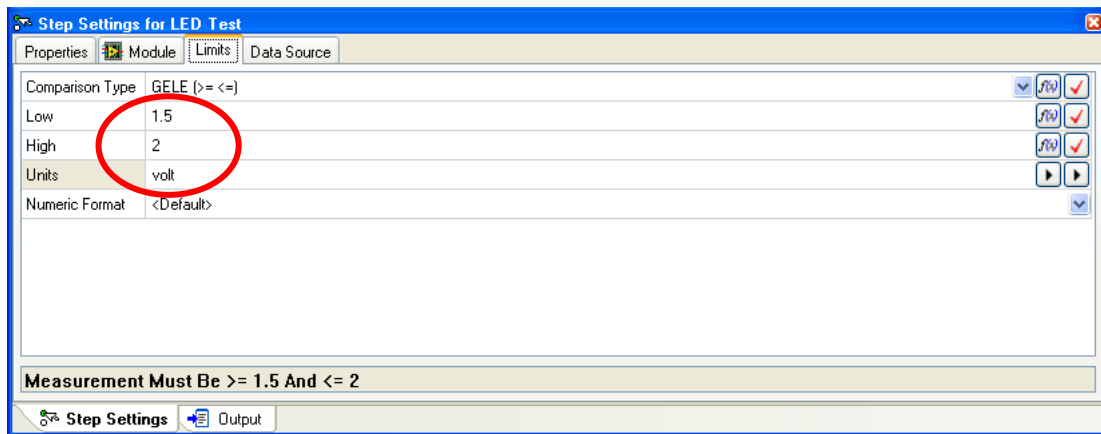

Figure 16 Step Settings for LED Test Dialog Box
- b. Set the limits in the Edit Numeric Limit Test dialog box to the values shown in Figure 16. Setting the limits in this way will have this step fail only if the returned measurement, the voltage value, is outside of 1.5V and 2.0V, which effectively tests for shorts and opens.